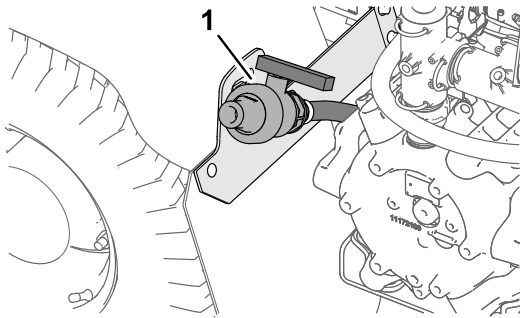

Figure 52
2. Locate the tank-drain valve at the left, rear fender of the machine (Figure 52).